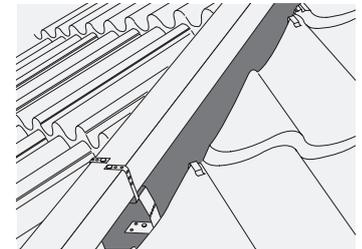

Fig. 6 - Fixing hip batten
- 5 Secure either one or two thicknesses of 50mm x 25mm tiling batten to the top of Batten Brackets, parallel to hip rafter, by folding over Batten Bracket arms and nailing through perforations into the battens using nails provided (Fig. 6).